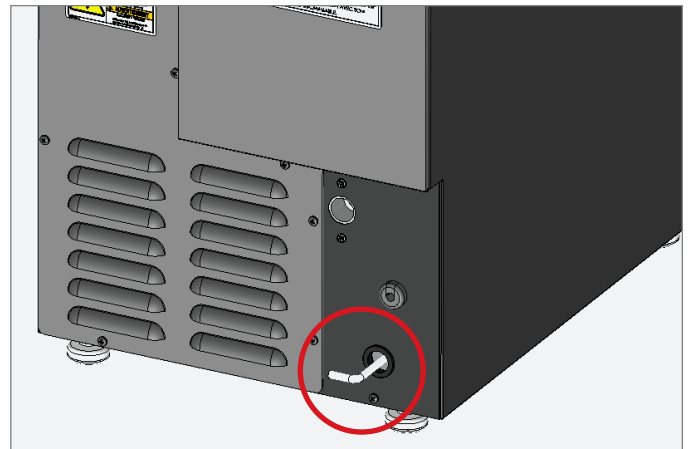

FIG. 2. Ice machine water inlet location.
4. Connect the water filter head to the icemaker water inlet (tubing provided by TRUE). See figs. 2 and 3.